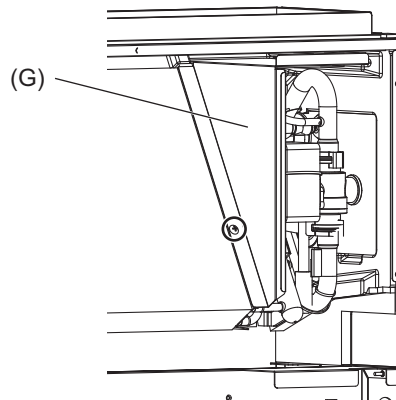

Fig.8
- (1) Remove the front plate (E) with procedure [1]-3.
- (2) Remove the control box (F) with procedure [1]-3.
- (3) Pull out the drain pan with procedure [1]-3.
- (4) Remove a fixing screw on the heat exchanger cover (G) to remove it. (Fig.8)